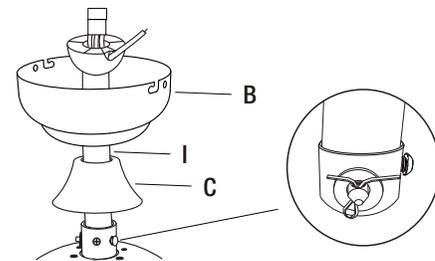

Figure 6
- Loosen the screws first and then insert the downrod assembly (I) into the hanger at the top of the fan motor assembly.
- Push the pivot pin (AA) through the hanger and downrod holes (Figure 6). Pivot pin's insert end is a specially-designed cone shape that pushes away and won't harm the wires inside the downrod. Secure the pivot pin by inserting the split pin and bending the ends to prevent it from falling out of the holes (Figure 6).
- Secure the hanger and downrod by tightening the screws pre-installed on the hanger (Figure 6).